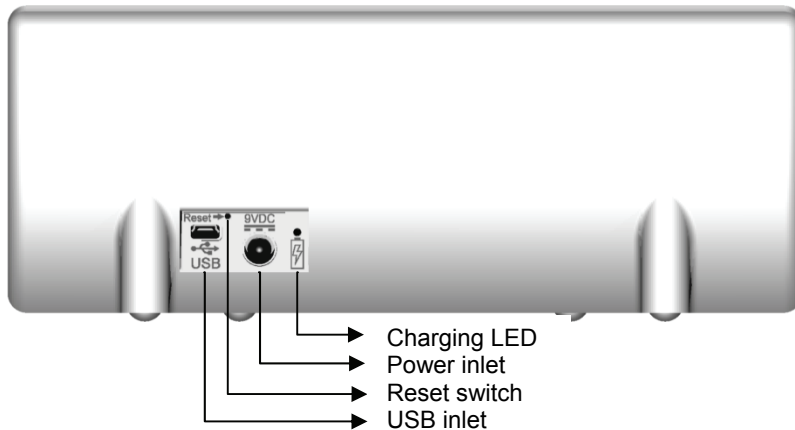

Figure 2. AGE Reader mu rear panel
- Rear panel at the back of the device (figure 2) with:
3. Insert the power plug in the power inlet, which is located on the rear panel at the backside of the AGE Reader mu (figure 2). A blue LED will light up when the battery is being charged.
When starting the AGE Reader mu for the first time it is recommended that you charge the internal battery completely before use. This will extend the battery life. Insert the power plug into the power inlet that is located on the rear of the AGE Reader mu, labelled as "Power Inlet" (figure 2). The blue charging LED will light up when the battery is charging, when the charging LED is off, the battery is fully charged.